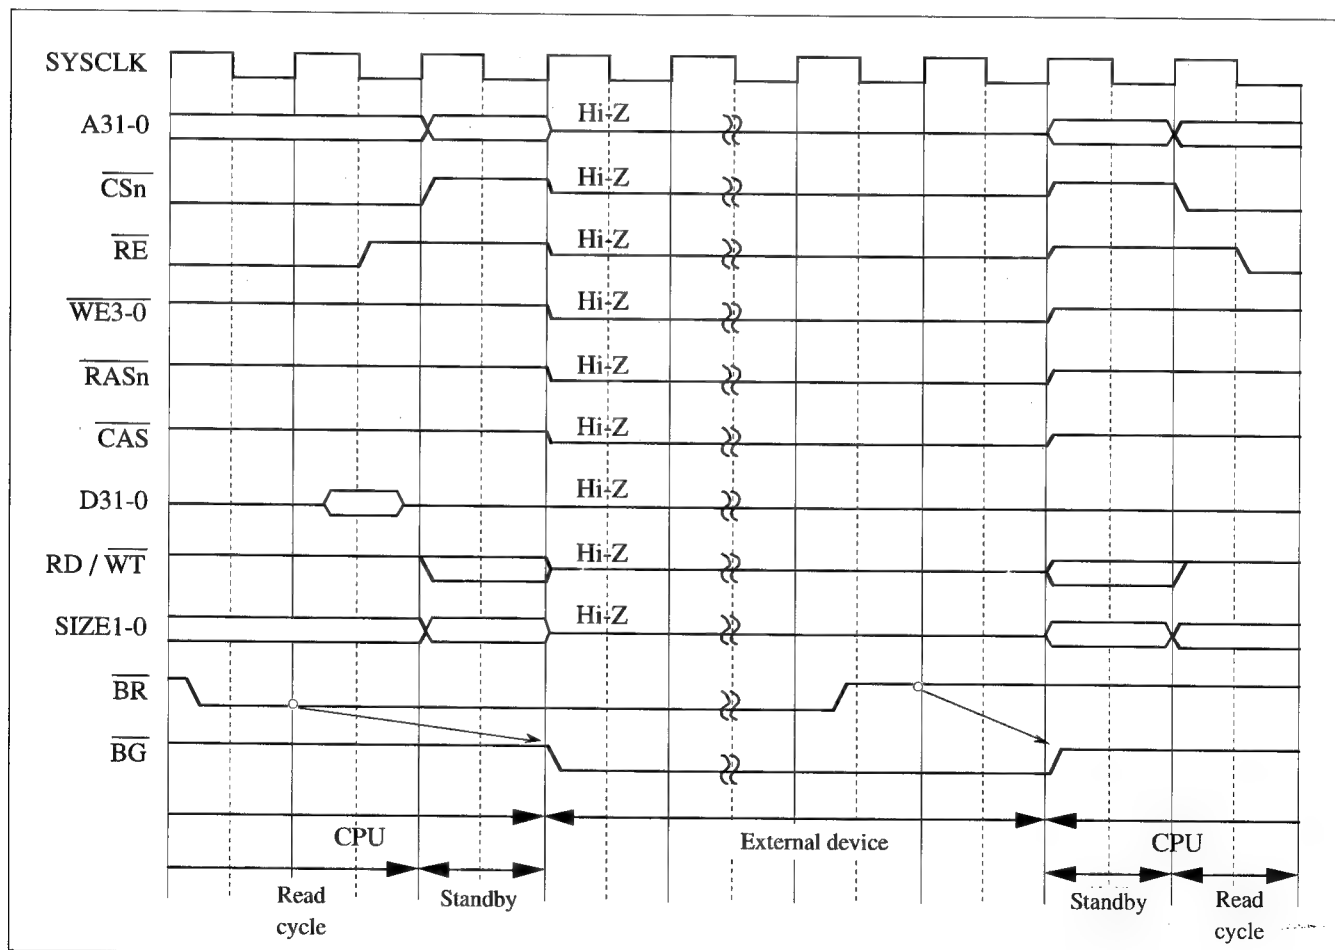
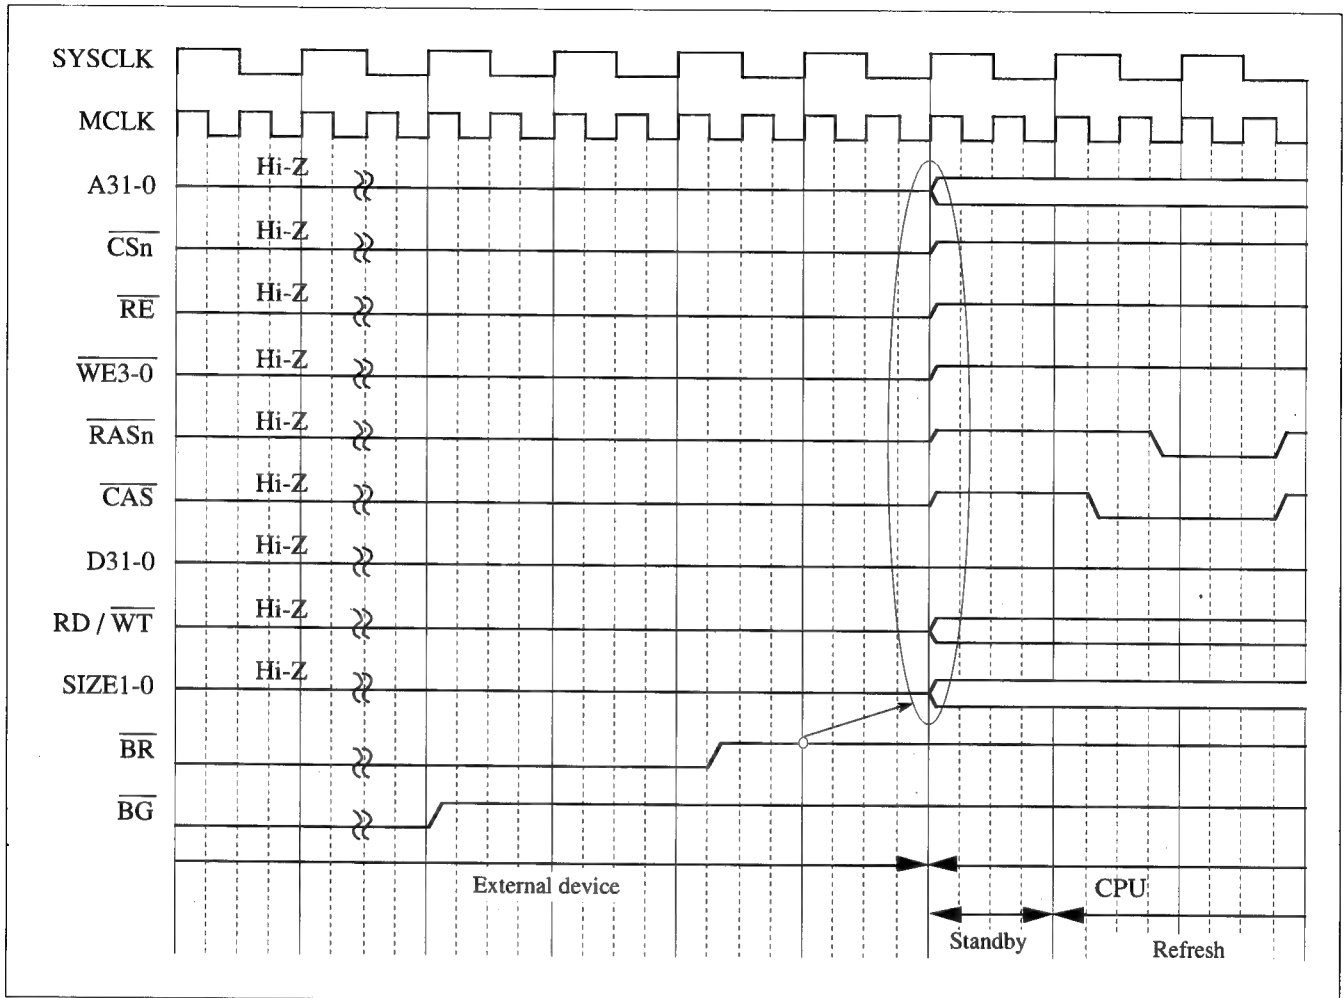

Fig. 5-8-34 Bus Arbitration Timing 1 (Bus Authority Release/Bus Authority Acquisition)
Fig. 5-8-35 Bus Arbitration Timing 2
In the MN103002A/MN103002AYB, bus arbitration is implemented through the bus request signal (BR) and the bus grant signal (BG). If an external device asserts the BR signal, then once the current bus access being executed is completed, the BG signal is asserted and the bus authority is released to the external device. Once the BR signal is negated, this LSI negates the BG signal in order to re-acquire the bus authority. However, if a refresh request is generated by the DRAM control circuit within this LSI while the bus authority has been released to an external device, this LSI negates the BG signal and requests the bus authority back from the external device. The external device then negates the BR signal in response, and the refresh is executed. Note that bus arbitration is performed in synchronization with SYSCLK. Fig. 5-8-34 shows the timing for releasing the bus authority to an external device, and Fig. 5-8-35 shows the timing when a refresh request is generated while the bus authority has been released.